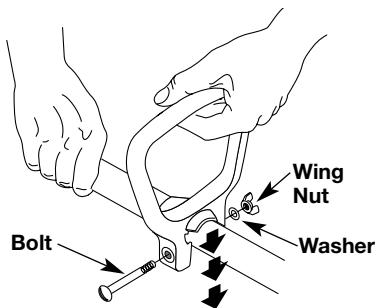

Fig. 1
1. Push the D-handle down onto the shaft housing so that the handle slants towards the powerhead (Fig. 1). The squared bolt hole in the handle is to the right.